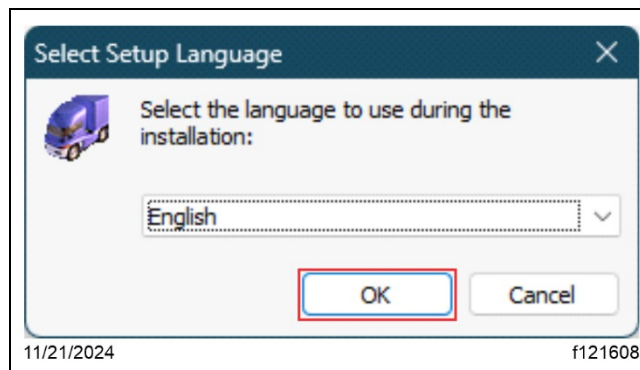

Fig. 32, Selecting the Setup Language
7.4. In the 'Select Setup Language' window, choose 'English' and select 'OK.' See Fig. 32.